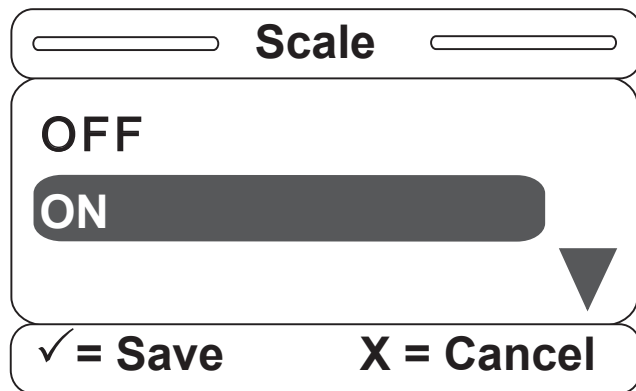

Figure S-9
9. Once the Scale item is selected, the screen in Figure S-9 will be displayed. Set the Scale option to ON then press “Enter” on the footboard panel. If needed, press “Exit” to cancel the operation.